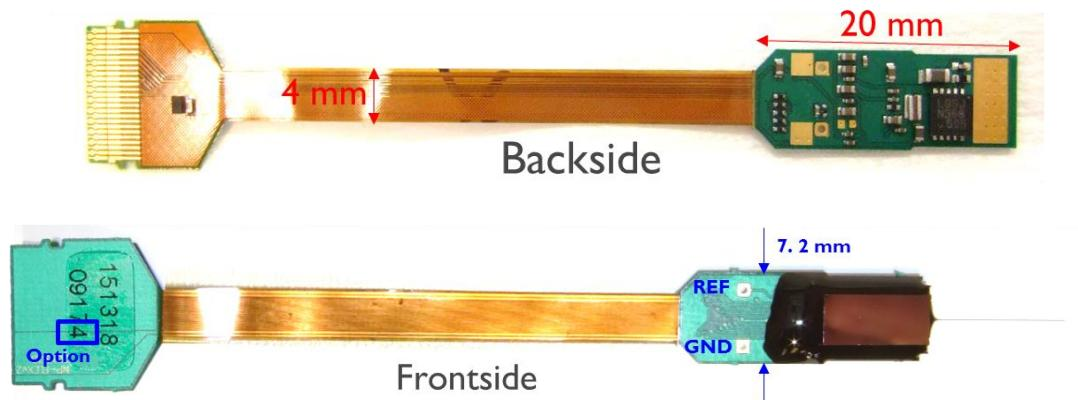

Figure 2: Flex PCB with assembled components: top: backside, bottom: frontside (with probe).
At the other end of the flex, an EEPROM is assembled, which contains the probe ID code and gain and ADC calibration parameters. The 11-digit probe ID code is printed on the frontside. The last digit indicates the probe Option (1-4). The EEPROM contains the same code except of the first digit (1). Additional info on how to call the probe ID via the API can be found in the document *2016-07-28 Neuropix Phase IIIA system user API V1.12*. The full assembly including probe weighs ~0.3 g. The flex PCB dimensions are indicated in Figure 2.